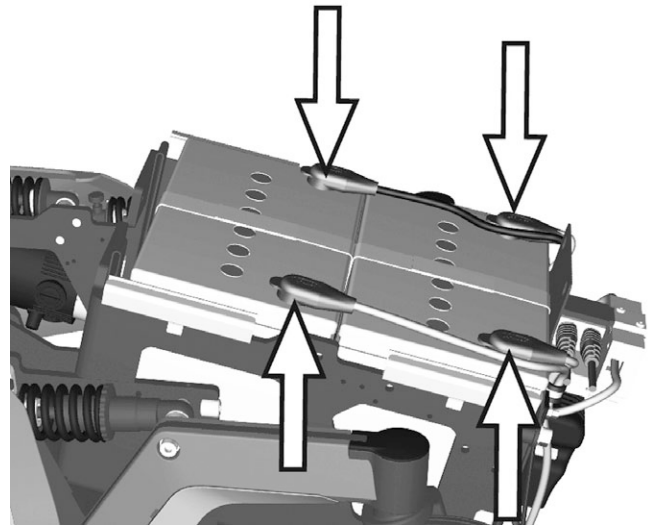

Figure 33. The batteries and their connectors.
9. Loosen the battery connections. See fig. 33.